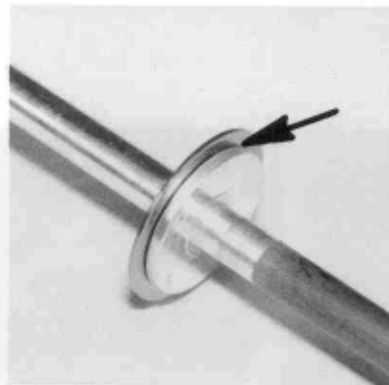

Fig. 44
□ **Figs. 44 & 45**— We're ready to build the rear axle assembly. Slip one of the #6625 differential drive rings onto the #8212 axle, as shown in Fig. 44. Racer's Tip: The Expert Class racers will put a drop of Super Glue, like ZAP or Hot Stuff, where the arrow is pointing to glue the drive ring to the aluminum hub.